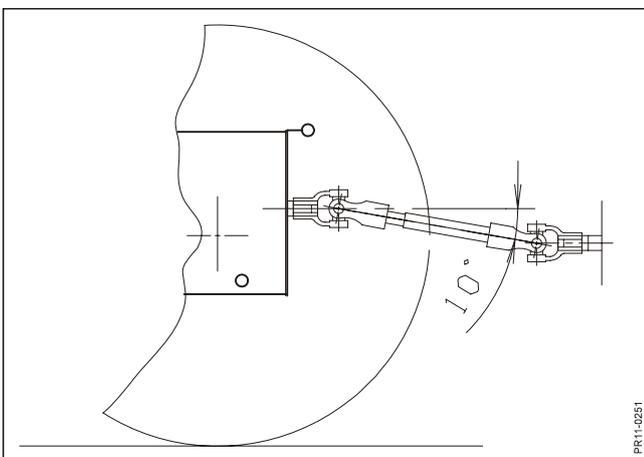

Fig. 2-5
- Fig. 2-5:** The working angles of the PTO shaft are between  $-10^{\circ}$  and  $+25^{\circ}$  from horizontal.